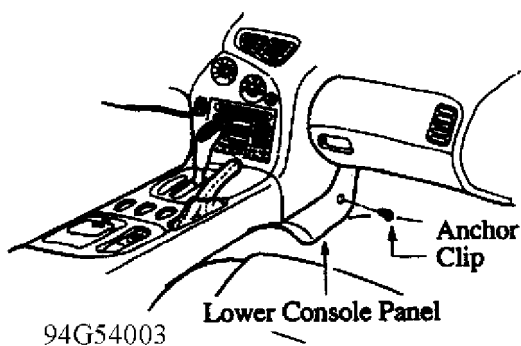

Fig. 1: Console Panel Removal
1. Remove the anchor clip from the right lower console panel. See Fig. 1.
2. Remove the right lower console panel. See Fig. 1.